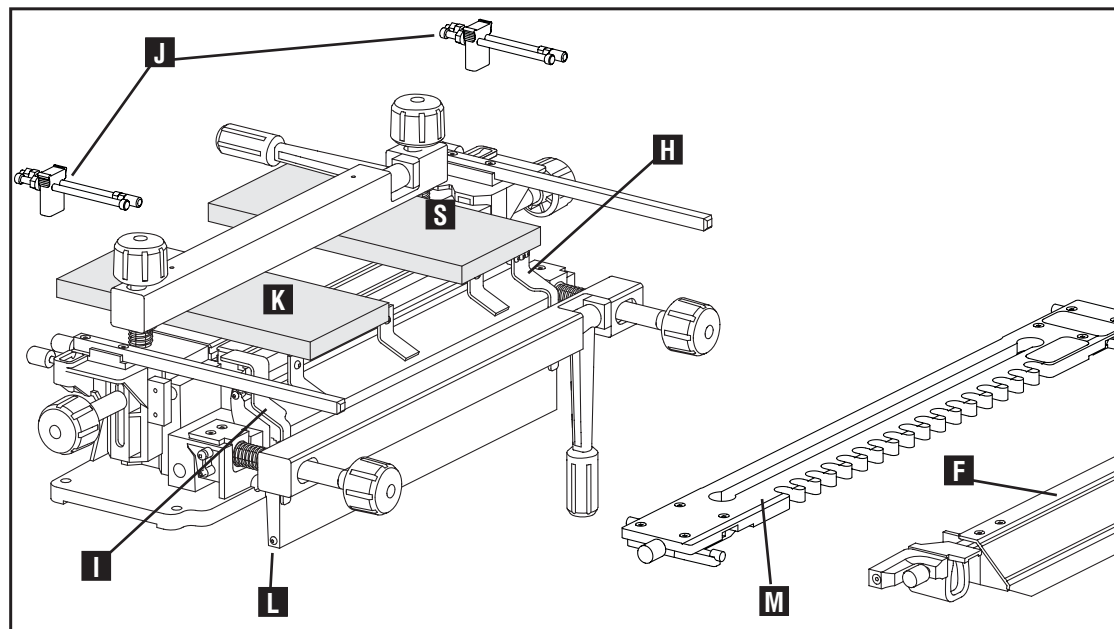
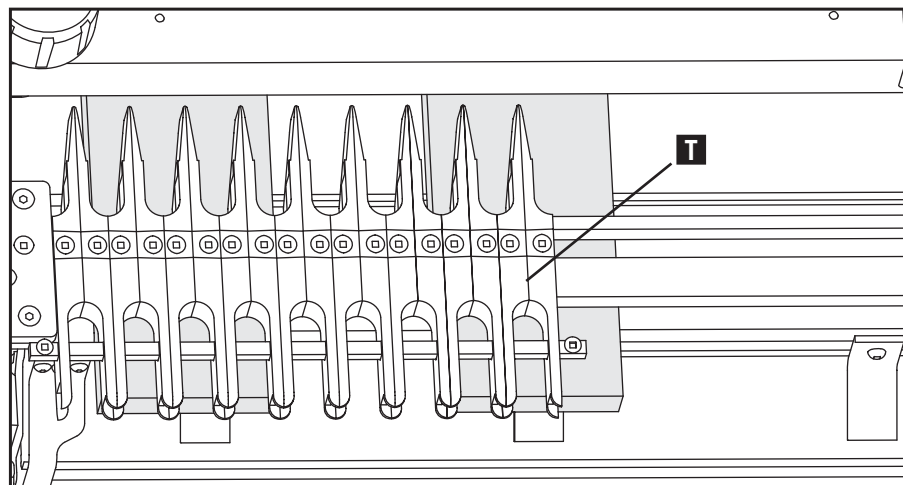

Fig. F7
Fig. F8
1. Remove stabilizer bar (F) Fig. F7 and template (M).
2. Set black edge guide (H) to right and silver edge guide (I) to the left.
3. Insert proper stops (J).
4. Put pinboard (drawer front) (K) in the horizontal position with "outside surface" facing the jig. Don't worry about position at this point, but don't let the board go beyond the front edge of the base (L).
5. Mount template (M).
**NOTE:** Mount fixed finger templates as shown in Fig. F7.
6. Make sure similar thickness scrap (S) is in the other side and clamp the template down.
**NOTE:** For the variable-spaced finger template, be sure the scrap is supporting the end of the finger set (T) Fig. F8.